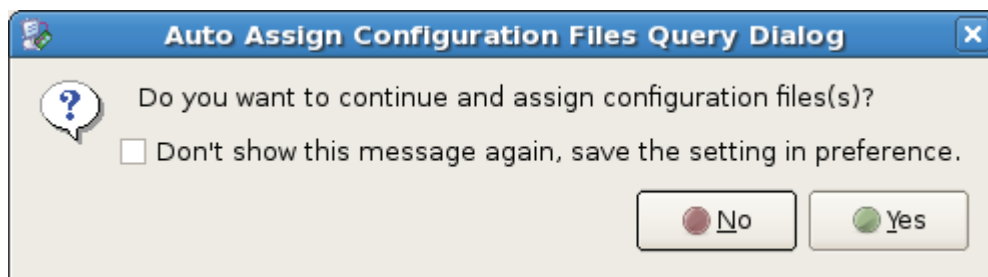

Figure 12: Auto Assign Configuration Files Query Dialog Box
5. In the **Auto Assign Configuration Files Query Dialog** box, click **Yes** (Figure 12).